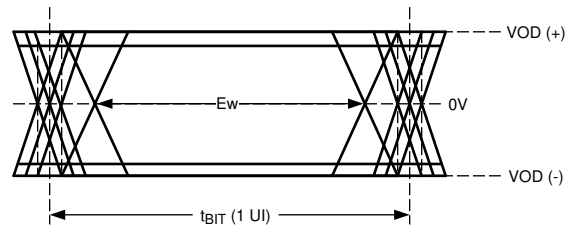

図 7-5. CMLOUT Output Driver
| E w Differential Output Eye Opening | R L = 100 Ω( 図 7-5 ) | CMLOUTP, CMLOUTN | 0.35 |     |     | UI (1) |